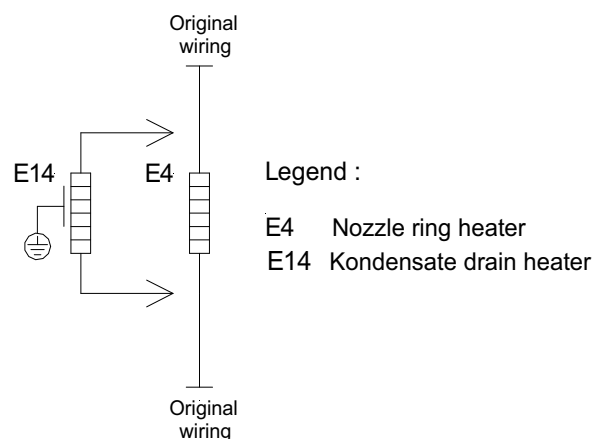

Fig. 1.2:
- 4) Connect the line in parallel to the nozzle ring heater E4 (see Fig. 1.2 on pag. 1).